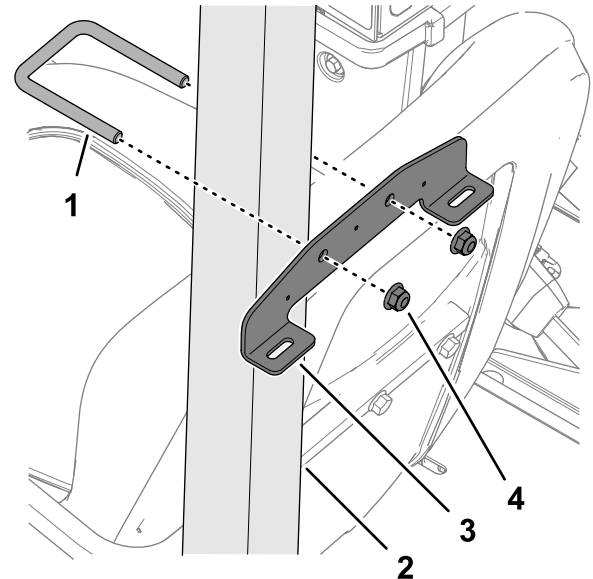

Figure 23
2. Install the mount bracket to the rollbar tube (Figure 23) with a U-bolt and 2 flange locknuts (3/8 inch).